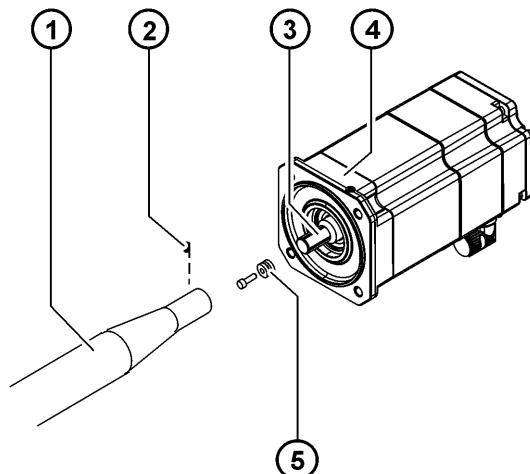

Fig. 11-11: Motor with connecting shaft
1. Remove corrosion protection from the new motor A4 (>>> Fig. 11-11).